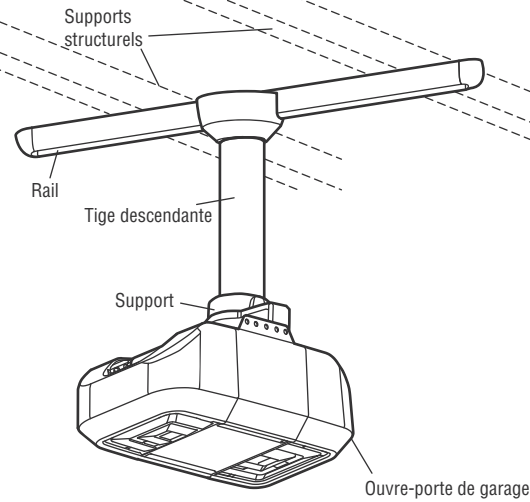

FIGURE 3
3. FIXEZ LE SUPPORT À LA TIGE DESCENDANTE (FIGURE 3)